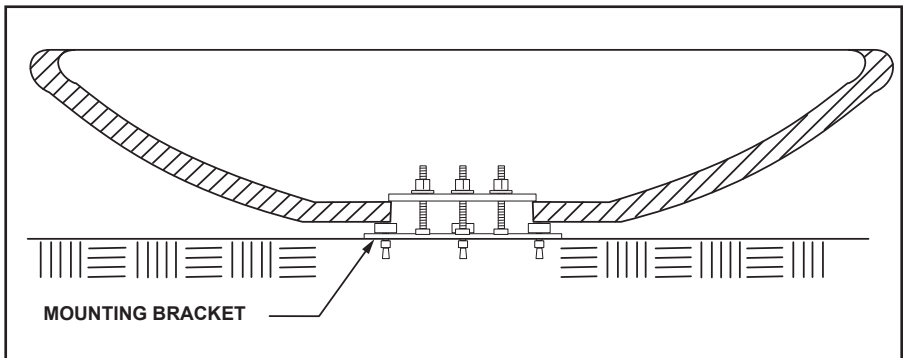

Figure 5. Mounting
8. Install the mounting bracket as shown in Figure 5 as necessary for the 45" Cielo, 48" Essex, and 45" Legacy fire pits. The mounting bracket should be secured using three bolts.
Note: All Models of Essex and Legacy require installation of the Grand Effects® mounting bracket. See Figure 5. The mounting bracket must be installed for proper cooling of the burner assembly. Warranty may be voided if the mounting bracket is not installed.